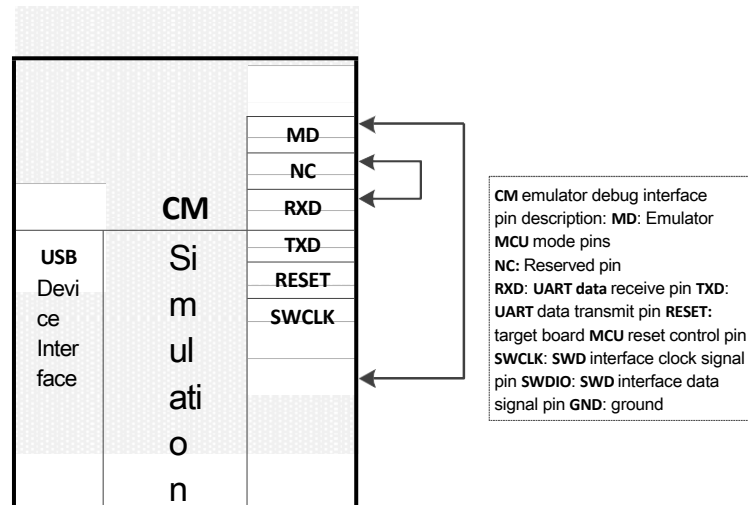

Figure 11 CM Emulator UART Pin Connections
1. Referring to Figure 11, connect the CM emulator RXD to TXD pins and NC to Vext pins, respectively: